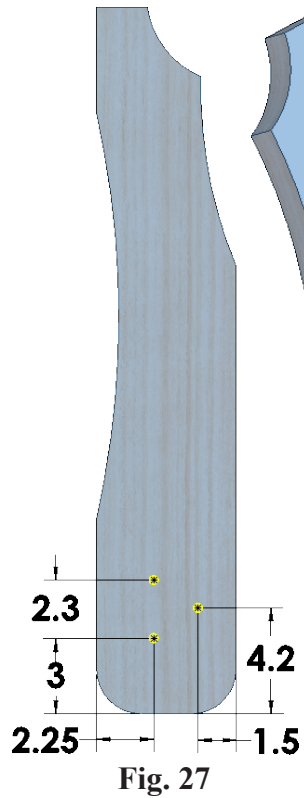

Fig. 27
Step 10. Click **Smart Dimension** (S) on the Sketch toolbar.
Step 11. Add dimensions, **Fig. 27**.